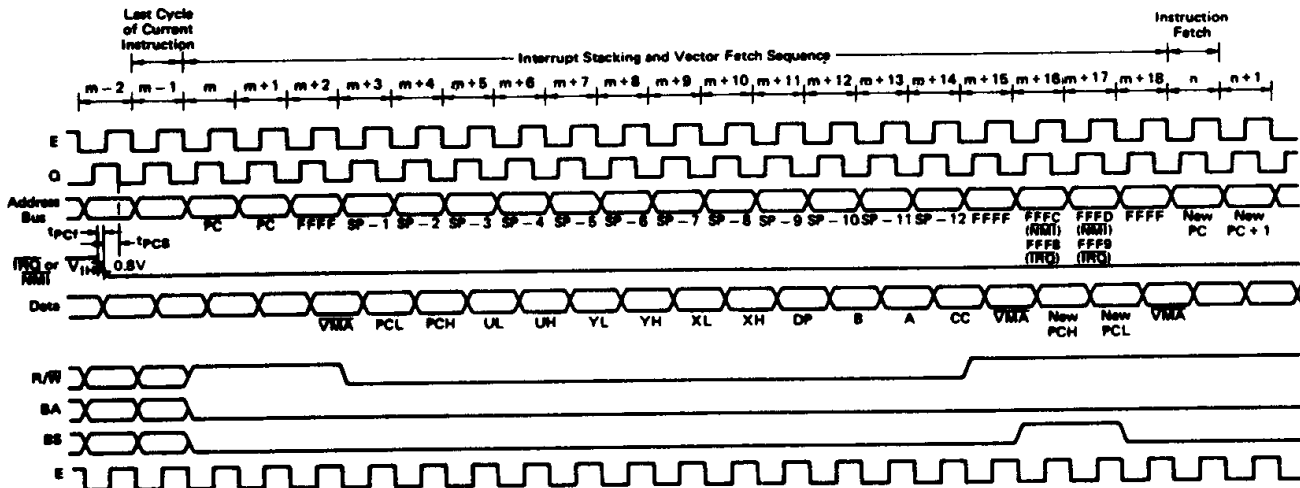

Figure 9 IRQ and NMI Interrupt Timing
hardware stack. After reset, an NMI will not be recognized until the first program load of the Hardware Stack Pointer (S). The pulse width of NMI "Low" must be at least one E cycle. If the NMI input does not meet the minimum set up with respect to Q, the interrupt will not be recognized until the next cycle. See Fig. 9.
A “Low” level input on this pin will initiate an interrupt Request sequence provided the mask bit (I) in the CC is clear. Since $\overline{\text{IRQ}}$ stacks the entire machine state it provides a slower response to interrupts than $\overline{\text{FIRQ}}$. $\overline{\text{IRQ}}$ also has a lower priority than $\overline{\text{FIRQ}}$. Again, the interrupt service routine should clear the source of the interrupt before doing an RTI. See Fig. 9.